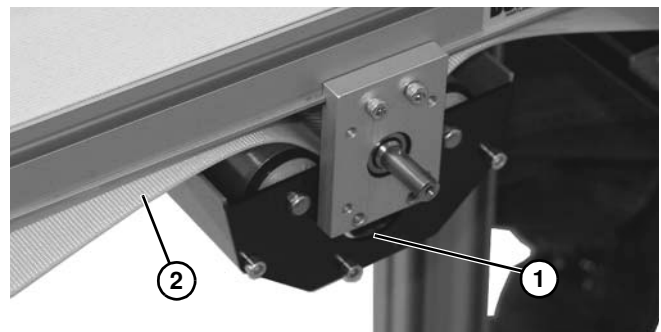

Figure 89
4. Lower and remove mid drive module (**Figure 89, item 1**) from belt (**Figure 89, item 2**).